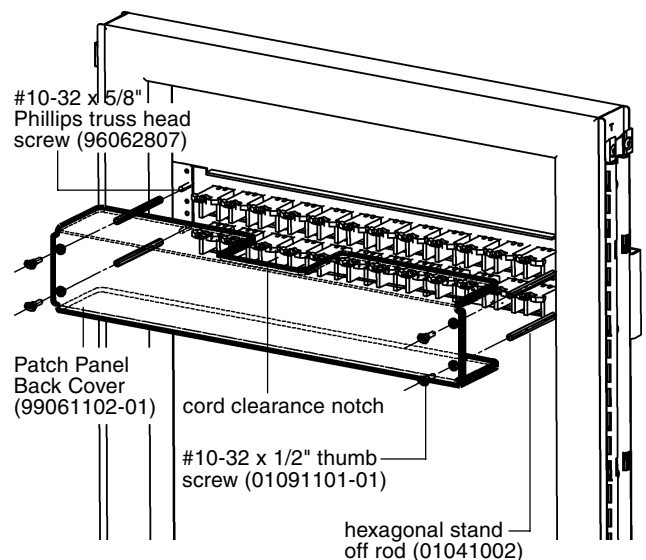

Figure 2
4. Fasten each of the four hexagonal stand off rods to the ends of the #10-32 x 5/8" Phillips screws used to secure the patch panel. Tighten rods completely (Figure 2).
5. Place the back cover over the stand off rods and align the four holes in the back of the cover with the four stand off rods. The cover can be installed with the cord clearance notch directed up or down (Figure 2).
6. Install a #10-32 x 1/2" thumb screw through each hole in the back cover and into the tapped end of the stand off rod. Tighten the thumb screws completely (Figure 2).